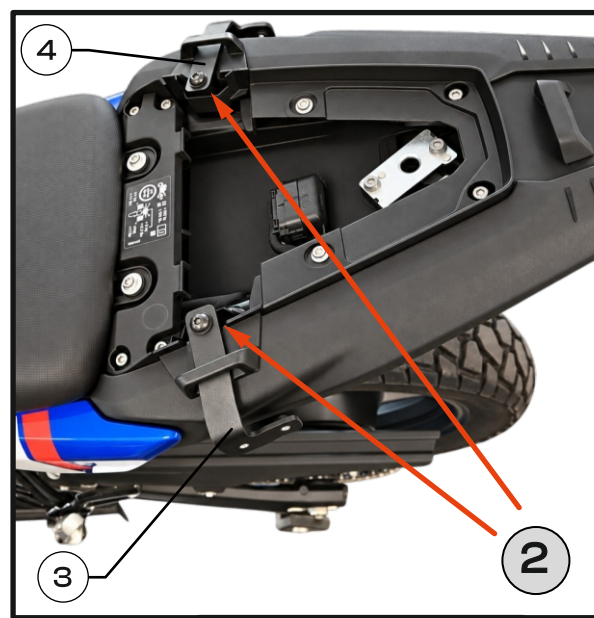

Fig. 3
2. Unscrew the OEM bolts. Install and loosely fasten the LH Front Bracket [3] and RH Front Bracket [4] using bolts [10], spacers [6], and washers [9]. [Fig. 1], [Fig. 3] Use medium-strength adhesive.